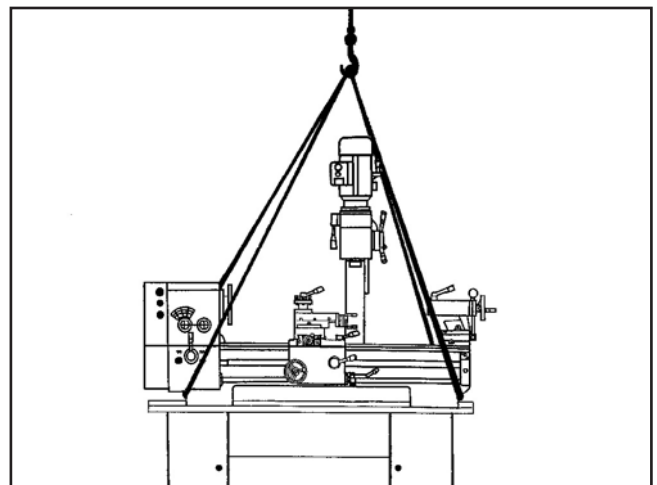

Figure 2. Lifting strap locations.
4. Insert two lifting straps under the bedways and behind the feed rod and the lead screw as shown in **Figure 2** and support the lathe with the lifting straps and lifting device.
5. Move the apron between the headstock and the mill column as shown in **Figure 2** to balance the load.